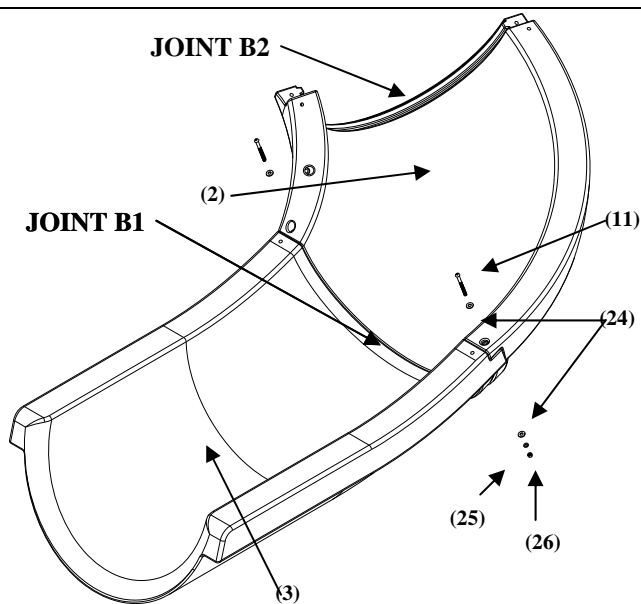

FIG. 6
3) Before working with the flume pieces, cover the concrete with cardboard or carpet to help prevent scratching the plastic slide components. **Order of assembly is important!** Each of the slide components is numbered in the order that they should be assembled. See Figure 6 for order of assembly. Assemble the Exit Flume (3) and the Runway Section (2) labeled B1 together as shown. Install the hardware through both side rails as shown in Figure 6. The hardware used for this step, in order of assembly, is as follows: 3/8"-16 x 4" Button Head Cap Screw S/S (11), 3/8" Flat Washer (24), 3/8" Flat Washer (24), 3/8" Lock Washer (25), 3/8" Hex Nut S/S (26). Tighten the hardware until snug.